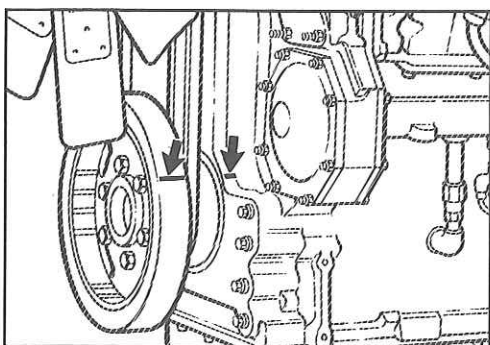

Fig. 7
3. Make a mark on the engine crankshaft vibration damper and on the front case of engine in line with each other as a reference point for cylinder No. 6 TDC compression. See Fig. 7.